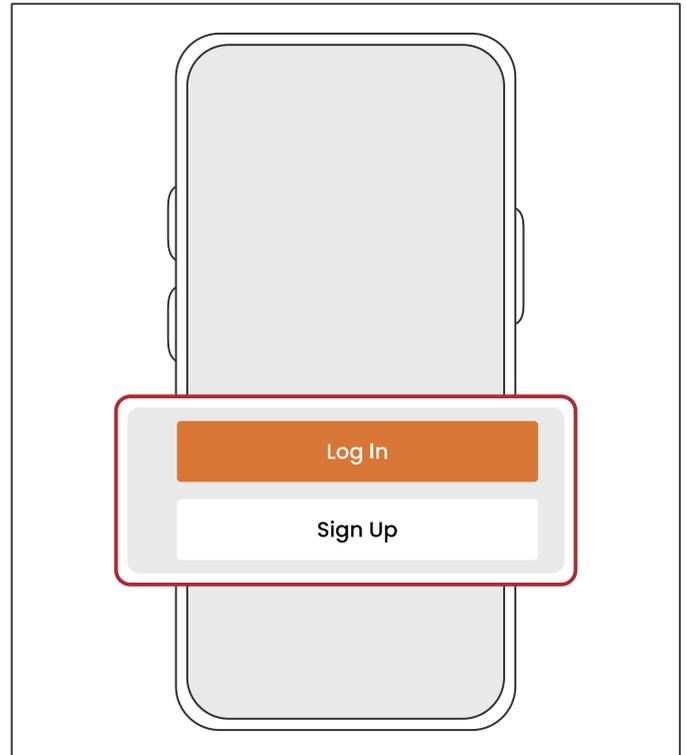

Fig.19
- 2 Open the App, register an account, Log in your account (see Fig.19).